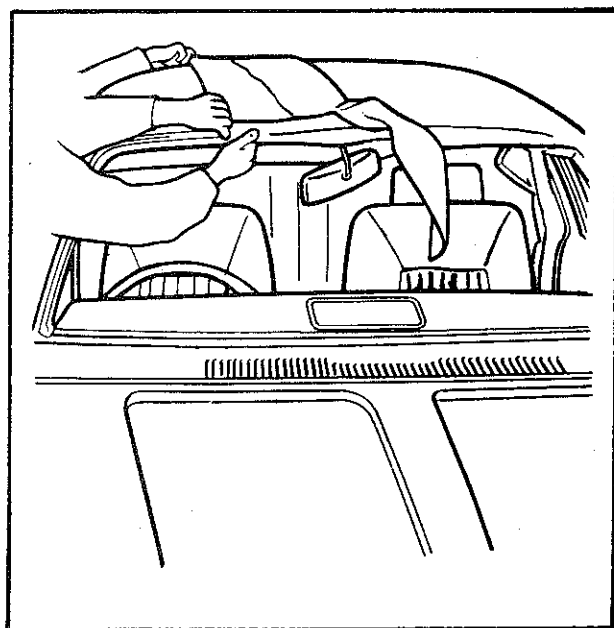

Fig. 6—Adhering vinyl cover to roof panel
(7) Spray exposed roof panel and fabric side of vinyl with neoprene adhesive.
(8) When the adhesive becomes tacky approx. 5 to 15 mins.) but not wet when touched with a finger, carefully adhere vinyl covering (Fig. 6).